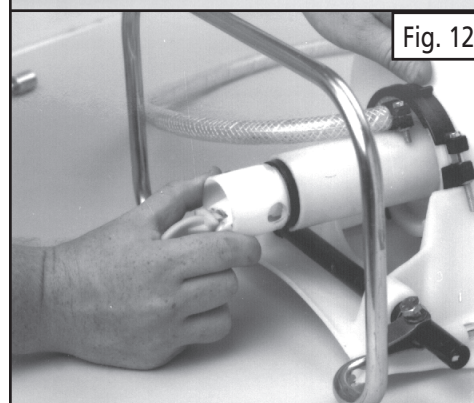

Fig. 12
- 9) Apply a non-water soluble grease (petroleum jelly works well) around the outside edge of the Viton collar before installing the piston into the pump cylinder. (See figure 12). Re-connect the lever to the pump rod.